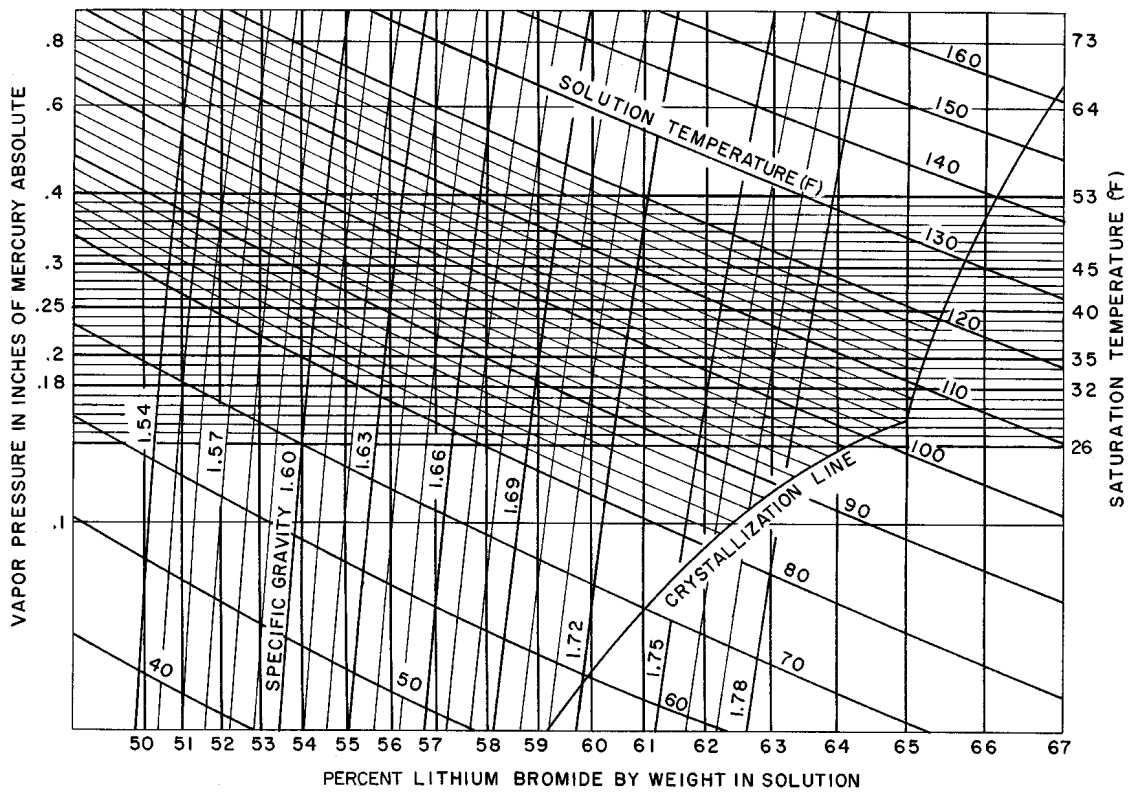

Fig. 22A — Equilibrium Diagram for Lithium Bromide in Solution (F)
3. Locate the intersection point of the specific gravity and temperature values on equilibrium diagram (Fig. 22A or 22B). Read down from this point to the solution concentration scale to determine the percent lithium bromide by weight in the weak solution.